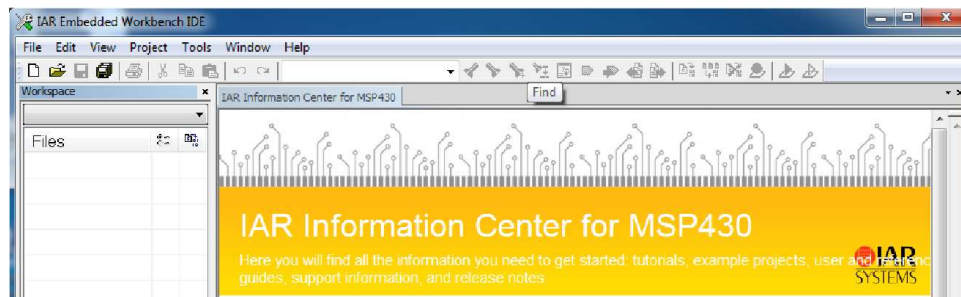

Figure 1.4: IAR initial window.
1. On the workstation go to 'Start > All Programs > IAR Systems > IAR Embedded Workbench Kickstart'. Additional letters and numbers will follow after the word Workbench, depending on the installed version. The initial IAR Embedded Workbench screen appears as shown in Figure 1.4.